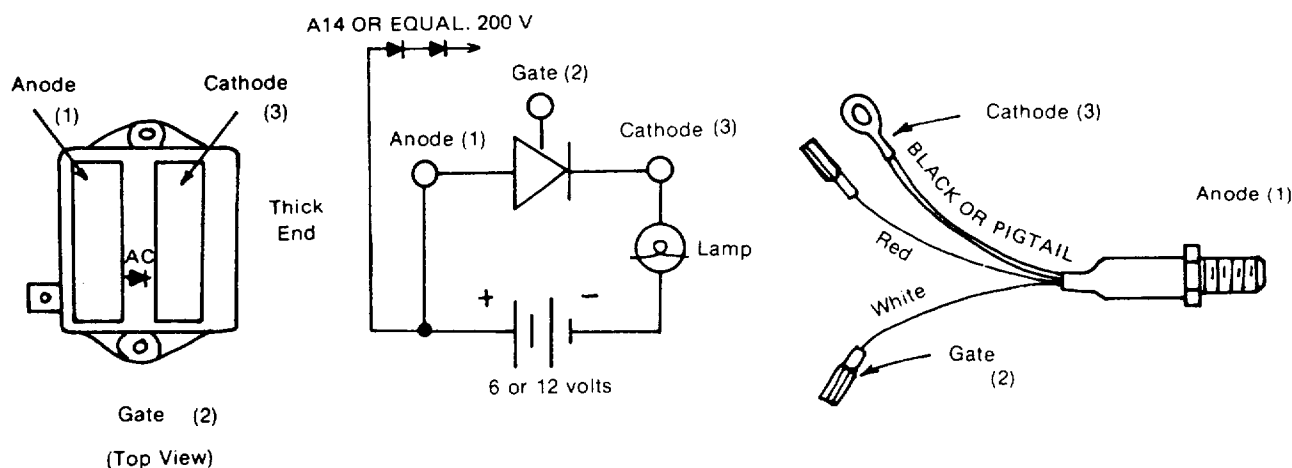

Figure 3-35
Connect the positive lead to the anode (1), connect negative lead to the cathode (3) as shown in Figure 3-35.